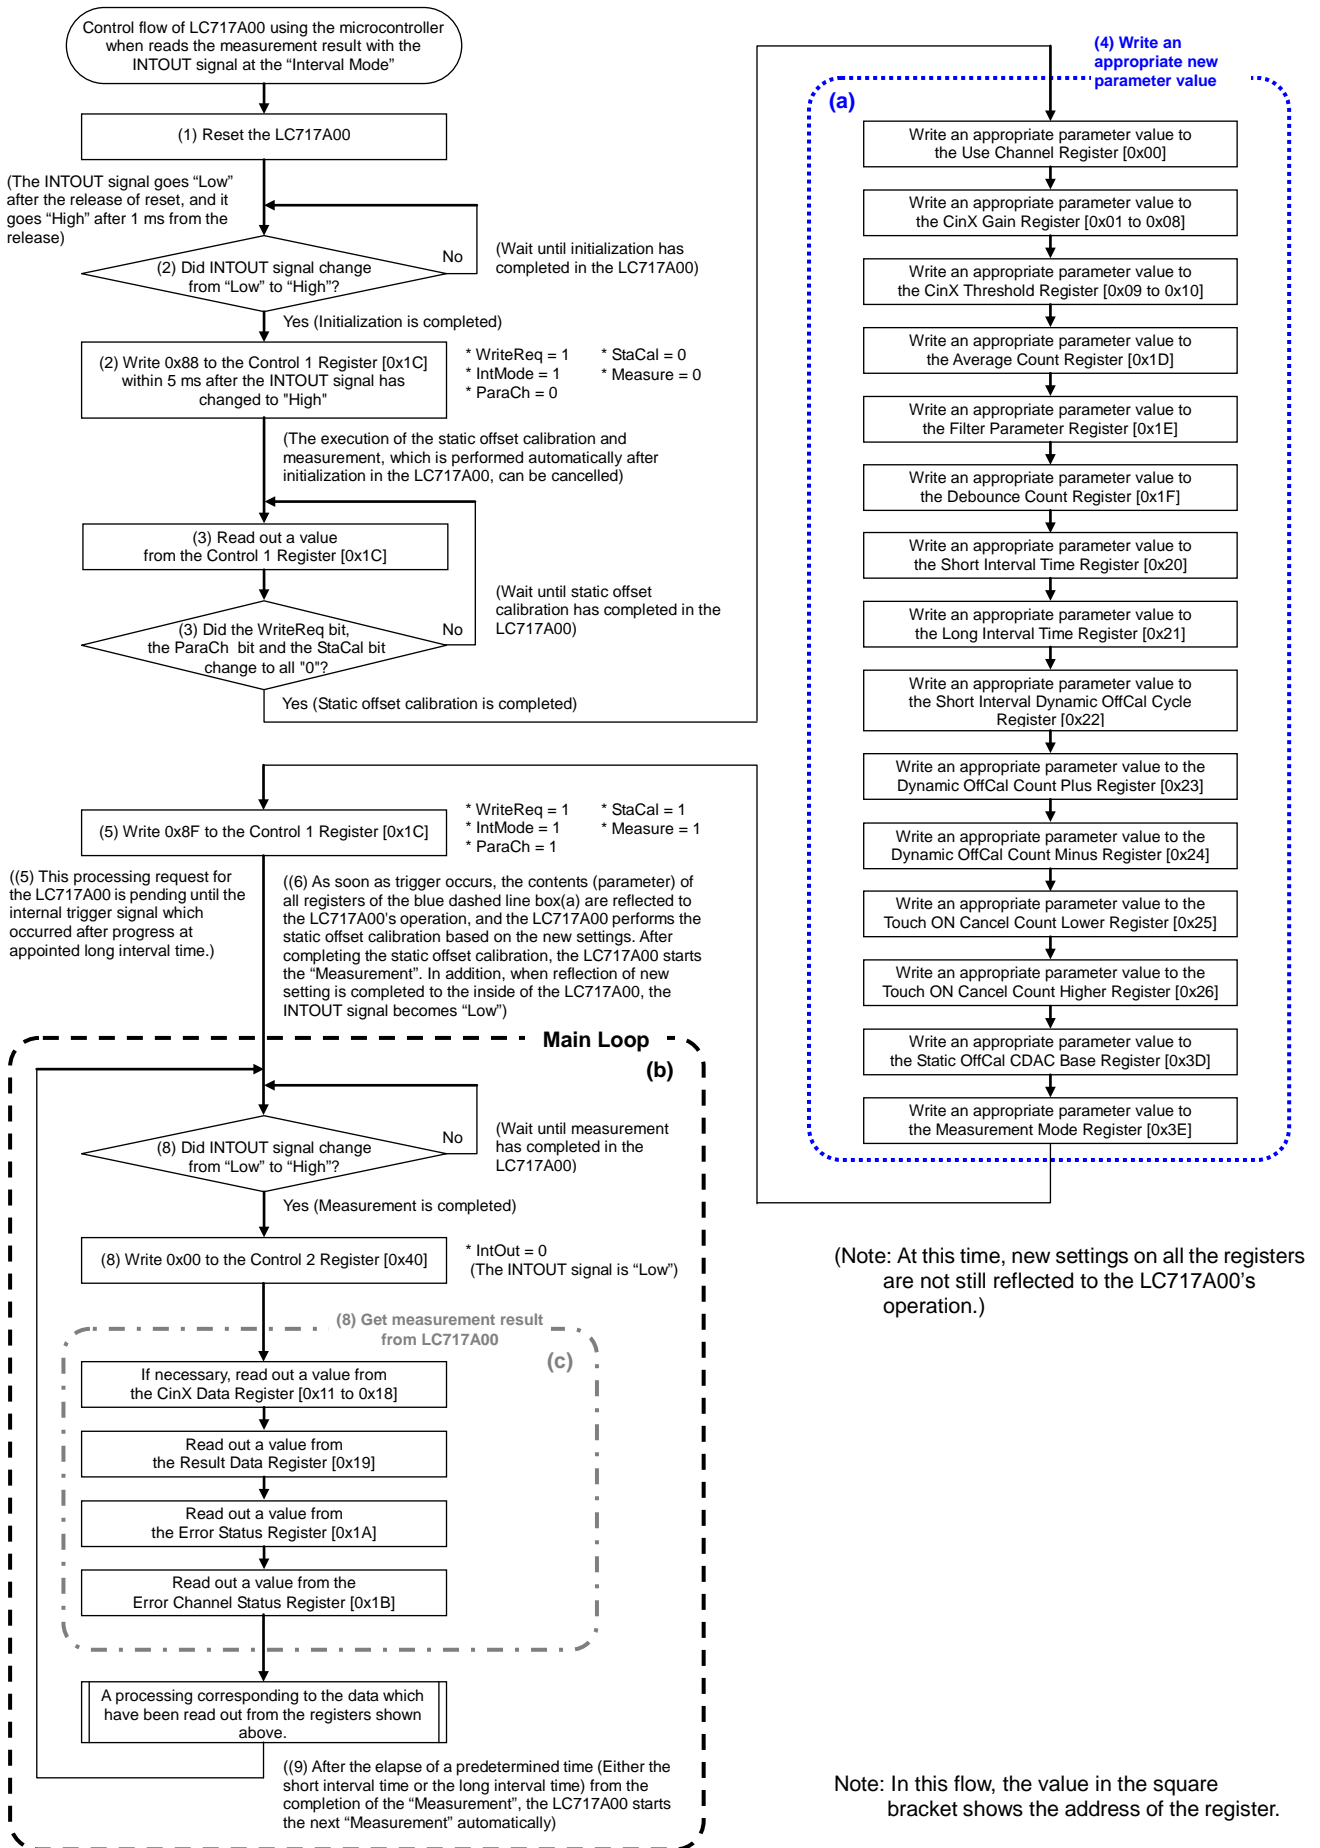

Fig.4-2 Control flow example when the microcontroller reads the measurement result with the INTOUT signal in the "Interval Mode"
- (1) The microcontroller resets the LC717A00 by controlling the nRST signal line via a GPIO port.
- (2) After controlling the nRST signal line, the microcontroller checks the status of the INTOUT signal via another GPIO port. As soon as the microcontroller detects the rising edge of the INTOUT signal, it sets 0x88 to the Control 1 Register (Address=0x1C) over the I2C (or SPI) bus. To put it concretely, the microcontroller writes 0x88 to the Control 1 Register (Address=0x1C) within 5 ms after the INTOUT signal goes “High”.
*Note: By doing (2), the execution of static offset calibration and measurement, which is performed automatically after initialization in the LC717A00, can be cancelled. (Conversely, if you allow the microcontroller to perform the static offset calibration and the subsequent measurement which are performed automatically by the LC717A00 according to the default setting of the LC717A00, the microcontroller need not do the processing described above, but the microcontroller usually has to wait at least until the static offset calibration has completed.)*
- (3) A microcontroller reads the Control 1 Register (Address=0x1C), and waits until all of the WriteReq bit, the ParaCh bit and the StaCal bit are “0”. By doing (3), the microcontroller can confirm that static offset calibration was completed.
- (4) The microcontroller writes an appropriate parameter value to each register of the LC717A00 over the I2C (or SPI) bus. (For more information about registers the microcontroller may write a parameter to, refer to the inside of the blue dashed line box(a) on the control flow diagram shown in Fig.4-2)
- (5) To reflect the new settings to the LC717A00’s operation and to make the LC717A00 perform static offset calibration and measurement, the microcontroller writes 0x8F to the Control 1 Register (Address=0x1C) over the I2C (or SPI) bus. This processing request for the LC717A00 is pending until the internal trigger signal which occurred after progress at appointed long interval time.
- (6) As soon as trigger occurred, the new settings on all the registers are reflected to the LC717A00’s operation. (That is to say, the LC717A00 operates according to the new settings)
- (7) The LC717A00 performs the static offset calibration based on the new settings. After completing the static offset calibration, the LC717A00 starts measurement.
- (8) In order to check the completion of the measurement in the LC717A00, the microcontroller checks the assertion of the INTOUT signal. After this, the microcontroller writes 0x00 to the Control 2 Register (Address=0x40) to negate the INTOUT signal, and it reads measurement results from the Result Data Register (Address=0x19) and so on.
- (9) After the elapse of a predetermined time (Either short interval time or long interval time) from the completion of the measurement, the LC717A00 starts the next measurement automatically.
- (10) The microcontroller repeats the above (8) through (9).